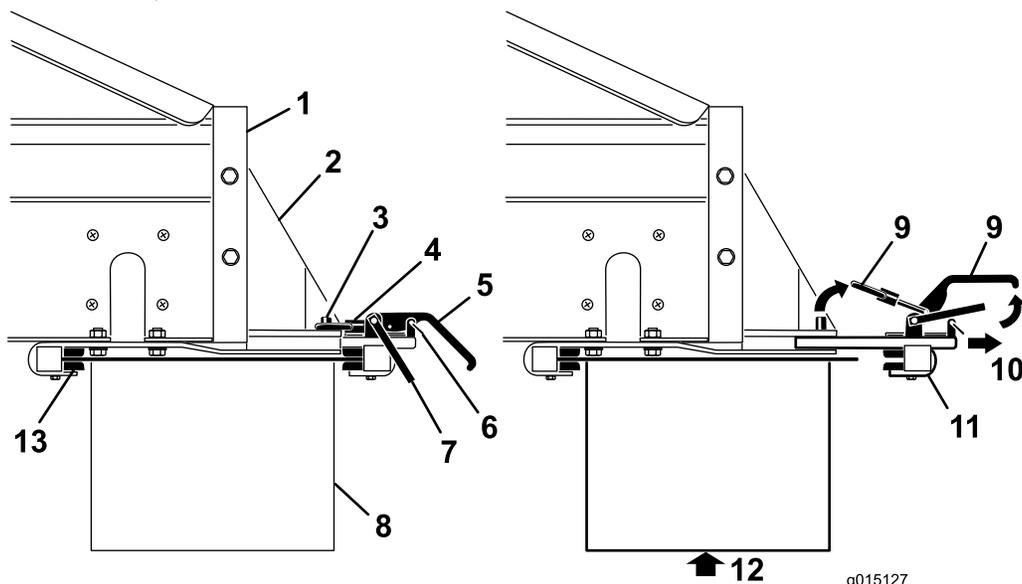

Figure 37
6. With assistance, insert the front edge of the cross conveyor/swivel up and under the rear of the MH-400 into the front clamps on the brackets (Figure 37).
7. While supporting the cross conveyor/swivel, slide the rear option attachment clamp assembly back into the slots in the brackets, and over the rear edge (Figure 37).
9. Reinstall the safety latch clips to the clamp handles (Figure 37).